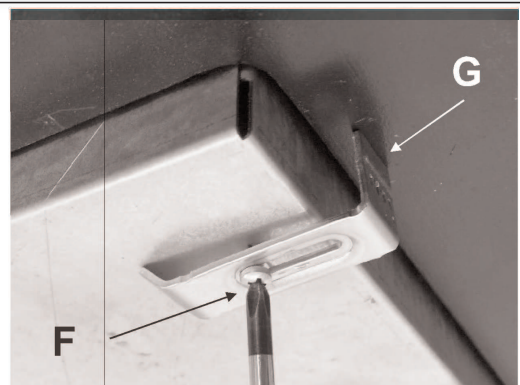

FIG. 5
- Position the hob in the hole in the unit and fasten it in place using the appropriate screws "F" and the fastening hooks "G" (see fig. 5).